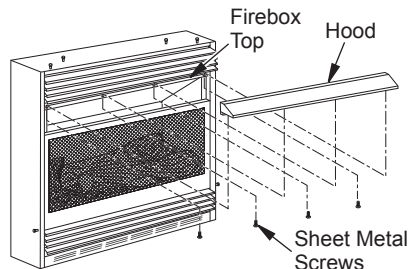

Figure 3 - Assembling Hood
2. Insert hood between firebox top and louvers (see Figure 3).
4. Insert screws as shown in Figure 3. Tighten screws firmly.